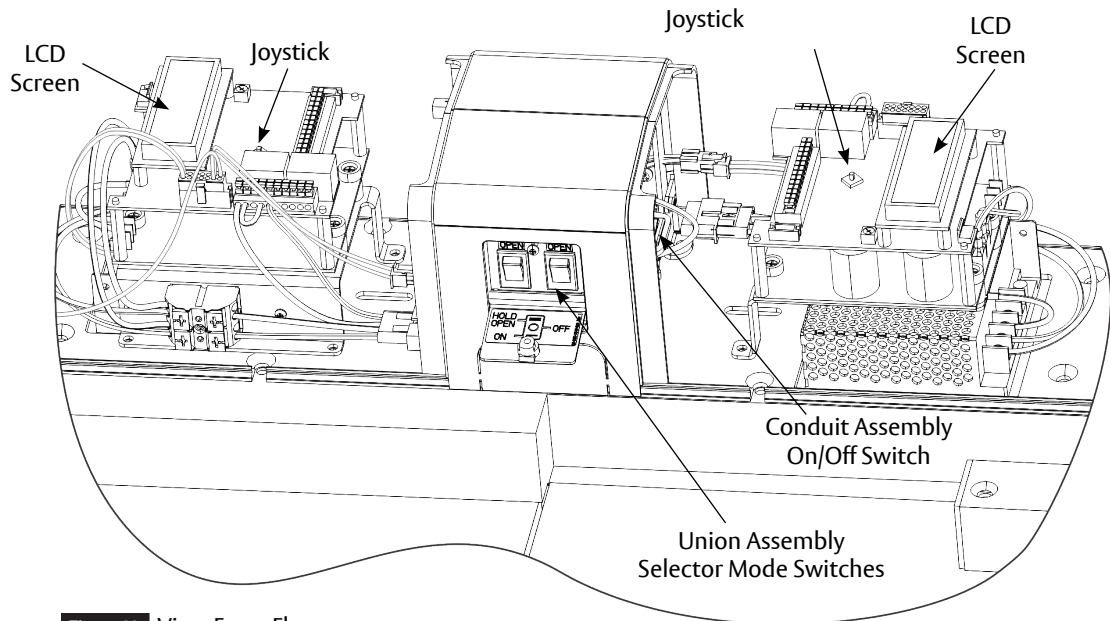

Figure 33 View From Floor
1. Remove #4-40 Phillips screw to open door on union assembly and place each selector mode switch in 'OFF' position. (Figure 33)
2. Turn On/Off switch to 'OFF' position on conduit assembly. (Figure 33)
- To scroll through menu items, push up or down on joystick. (Figure 33)